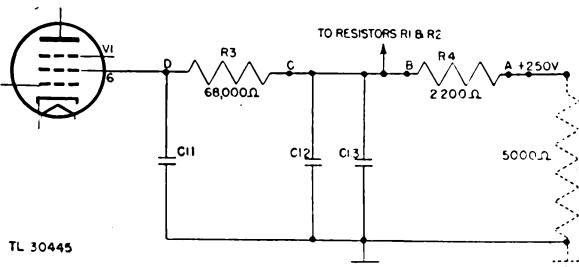

Figure 75. Resistance measurements functional schematic.
(6) If 75,000 ohms is not obtained between socket contact 6 and the chassis, an abnormal condition is indicated. Using the basic circuit shown in figure 75, the reason for the abnormal condition can be determined by the method described below: